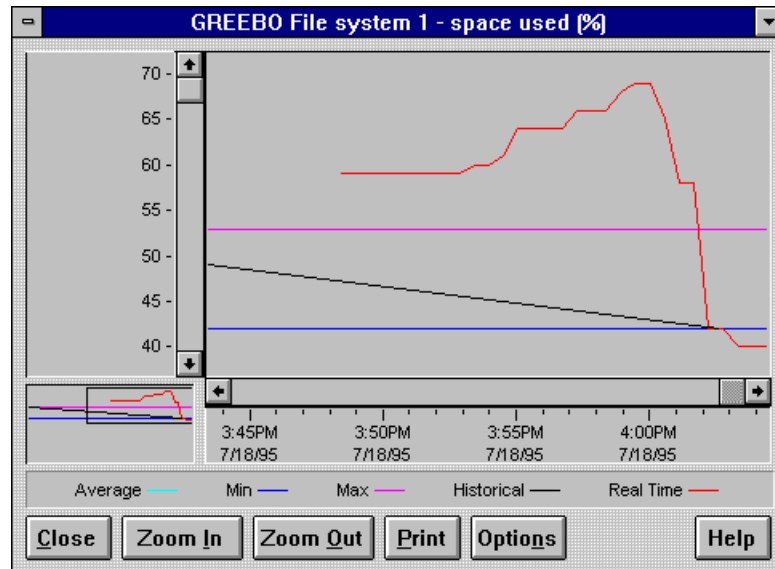

Figure 6-13. Example of disk usage
4. Right-click once on the volume that is heavily used and select the *Graph* option. This will launch a graph window showing the disk usage as collected by ADC, which is shown in Figure 6-13.